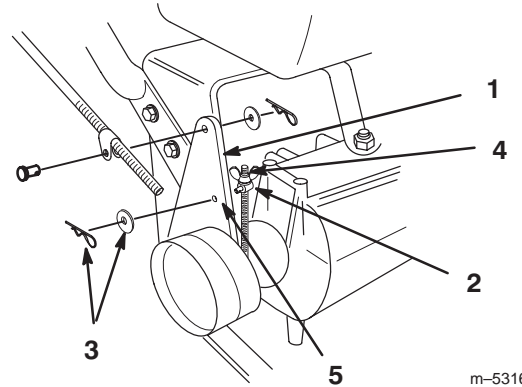

Figure 10
6. If brake adjustment is required, remove hairpin cotter and washer securing brake rod fitting to idler bracket (Fig. 10).
7. Adjust wing nut up or down on brake rod and secure fitting to idler bracket (Fig. 10). Check adjustment and adjust if necessary.